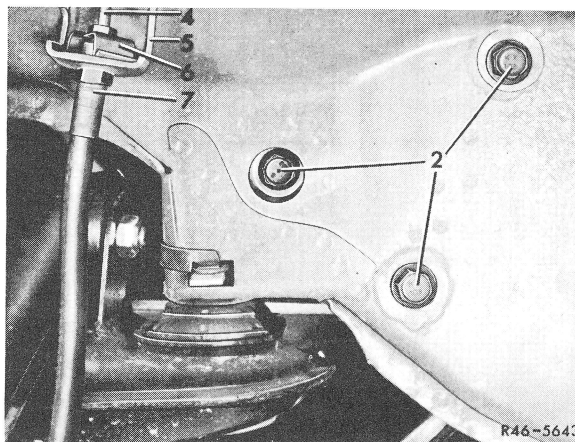

Fig. 4
**3** Loosen brake hose (7) on holder (5) from brake line (4) and remove from locking plate (Fig. 4).
**7** Attach brake hose (7) to brake line (4). Make sure that brake hose is installed in locking plate in holder (5) without wiping against any obstructions (Fig. 4).